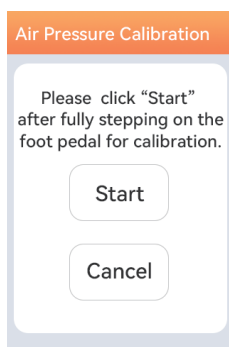

Figure 10
Enter the setting interface, click the calibration mode touch key, enter the air pressure calibration interface, click "Start", and the interface as shown in Figure 10 will pop up. Step on the foot to the end until 100% is displayed, and then release the foot to successfully calibrate.
5.4 Before using the device for the first time, make sure the air pressure has been calibrated.(as shown in Figure 10)